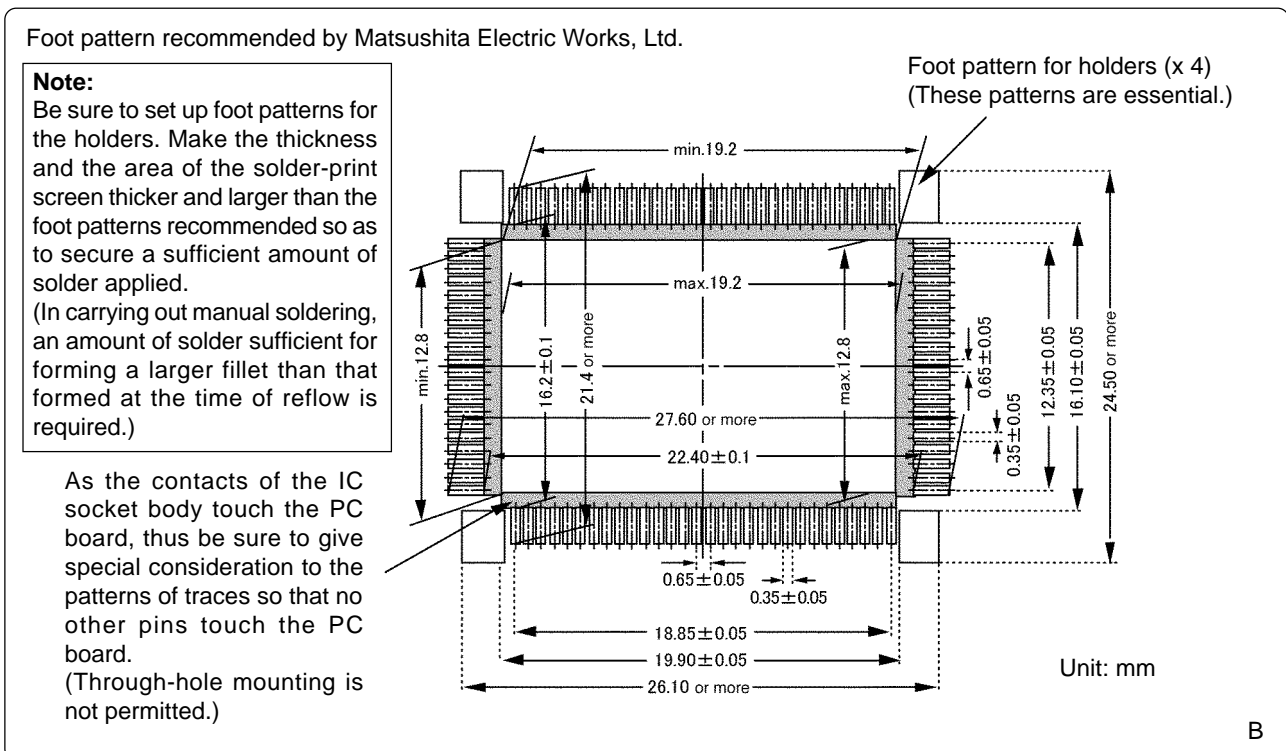

Figure 4 Dimensions of a target foot pattern (Quoted from the specifications of IC socket for QFP by Matsushita Electric Works, Ltd.)
- Holder patterns are required at each of the four corners of the target foot pattern (see Figure 4).